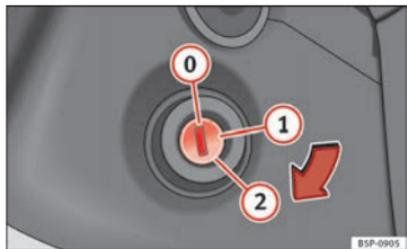

Fig. 135 Ignition key positions
In this position ⇒ Fig. 135, the ignition and the engine are OFF and the steering may be locked.
- Turn the ignition key to position ⇒ Fig. 135 ①. The warning lamp  will light for engine pre-heating.
- When the lamp turns off, turn the ignition key to position ② to start the engine. Do not press the accelerator.
- Turn the ignition key to position ⇒ Fig. 135 ①. ▶